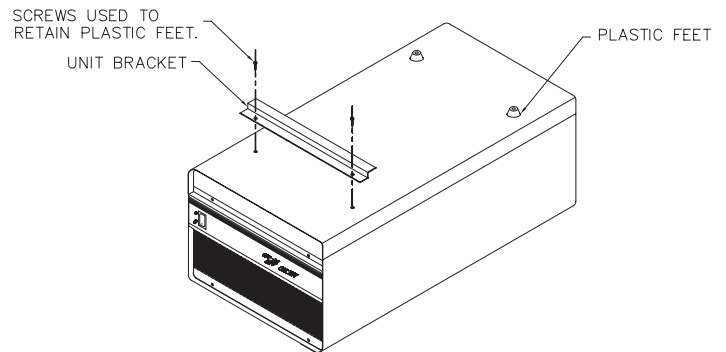

Fig. 5
2. Attach the unit bracket to the bottom of the SC150 using screws that originally secured plastic feet (Fig. 5).